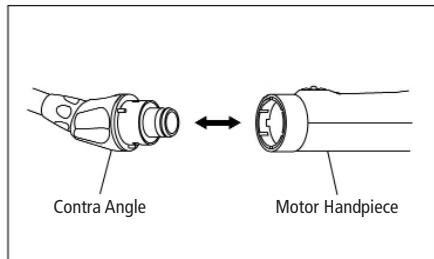

Fig. 7
(2) Changing the Contra Angle
- When removing the contra angle head, pull it out axially. (Fig. 7)